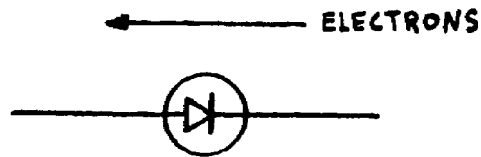
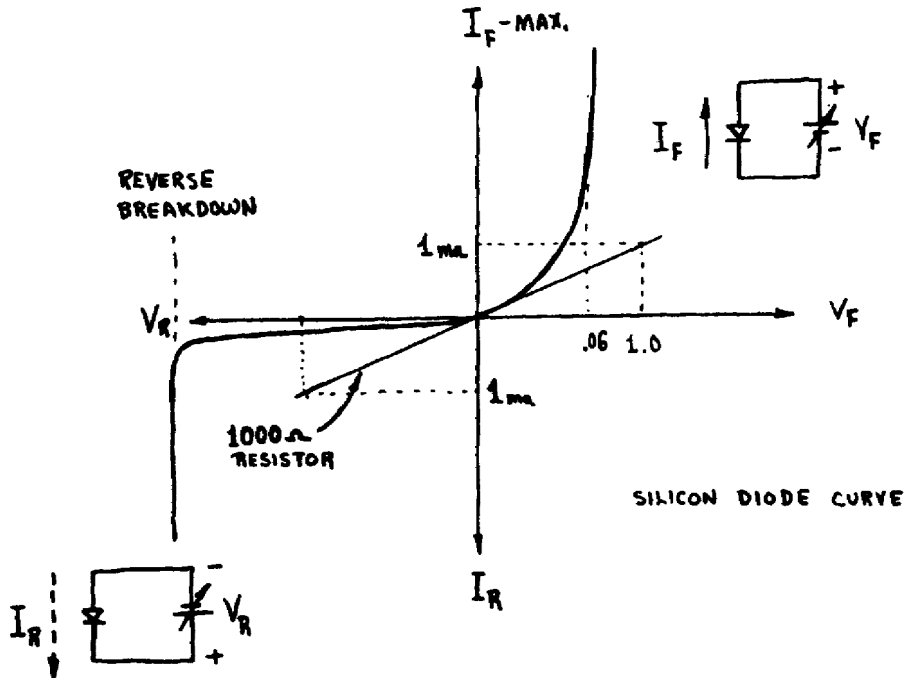

Figure 8. Conventional diode symbol.
Figure 9. Silicon diode curve.
a. The conventional diode is an electrical device whose resistance varies nonlinearly with the voltage applied to it (fig 8). When the diode is forward biased it passes maximum current. When it is reverse biased it passes minimum current. The extremes between maximum and minimum currents are so great that for all practical purposes it is said the diode will only pass current in the forward biased direction. Figure 9 is the performance curve of a typical diode showing forward and reverse current characteristics. The plot of the 1,000-ohm resistor is included for comparison.